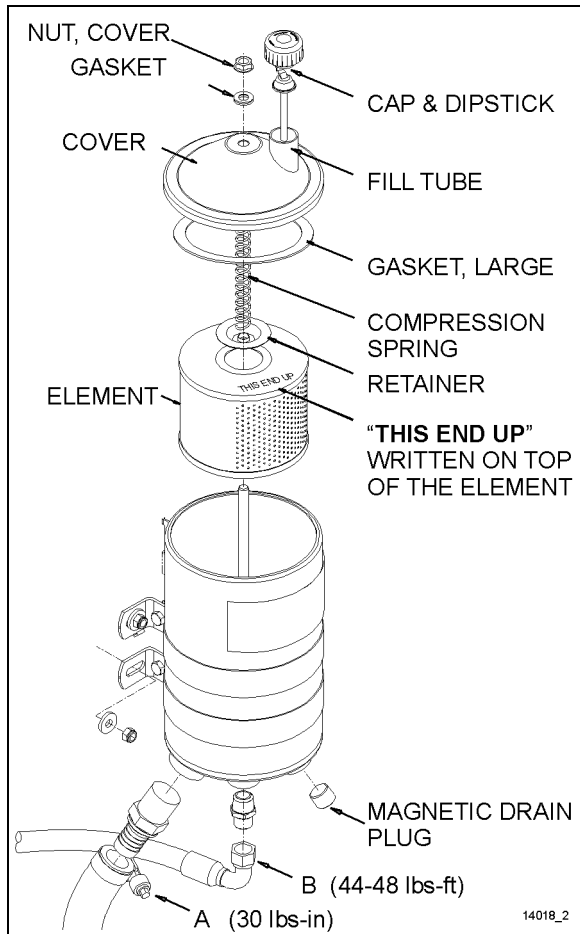

FIGURE 25: POWER STEERING FLUID RESERVOIR
3. Prior to pulling out the oil dipstick on the power steering fluid reservoir (Figure 25), thoroughly clean the reservoir and its immediate vicinity to protect the fluid from being soiled by impurities.
4. Remove the reservoir cover and the gasket (Figure 25). Remove the retaining spring and the element retainer.